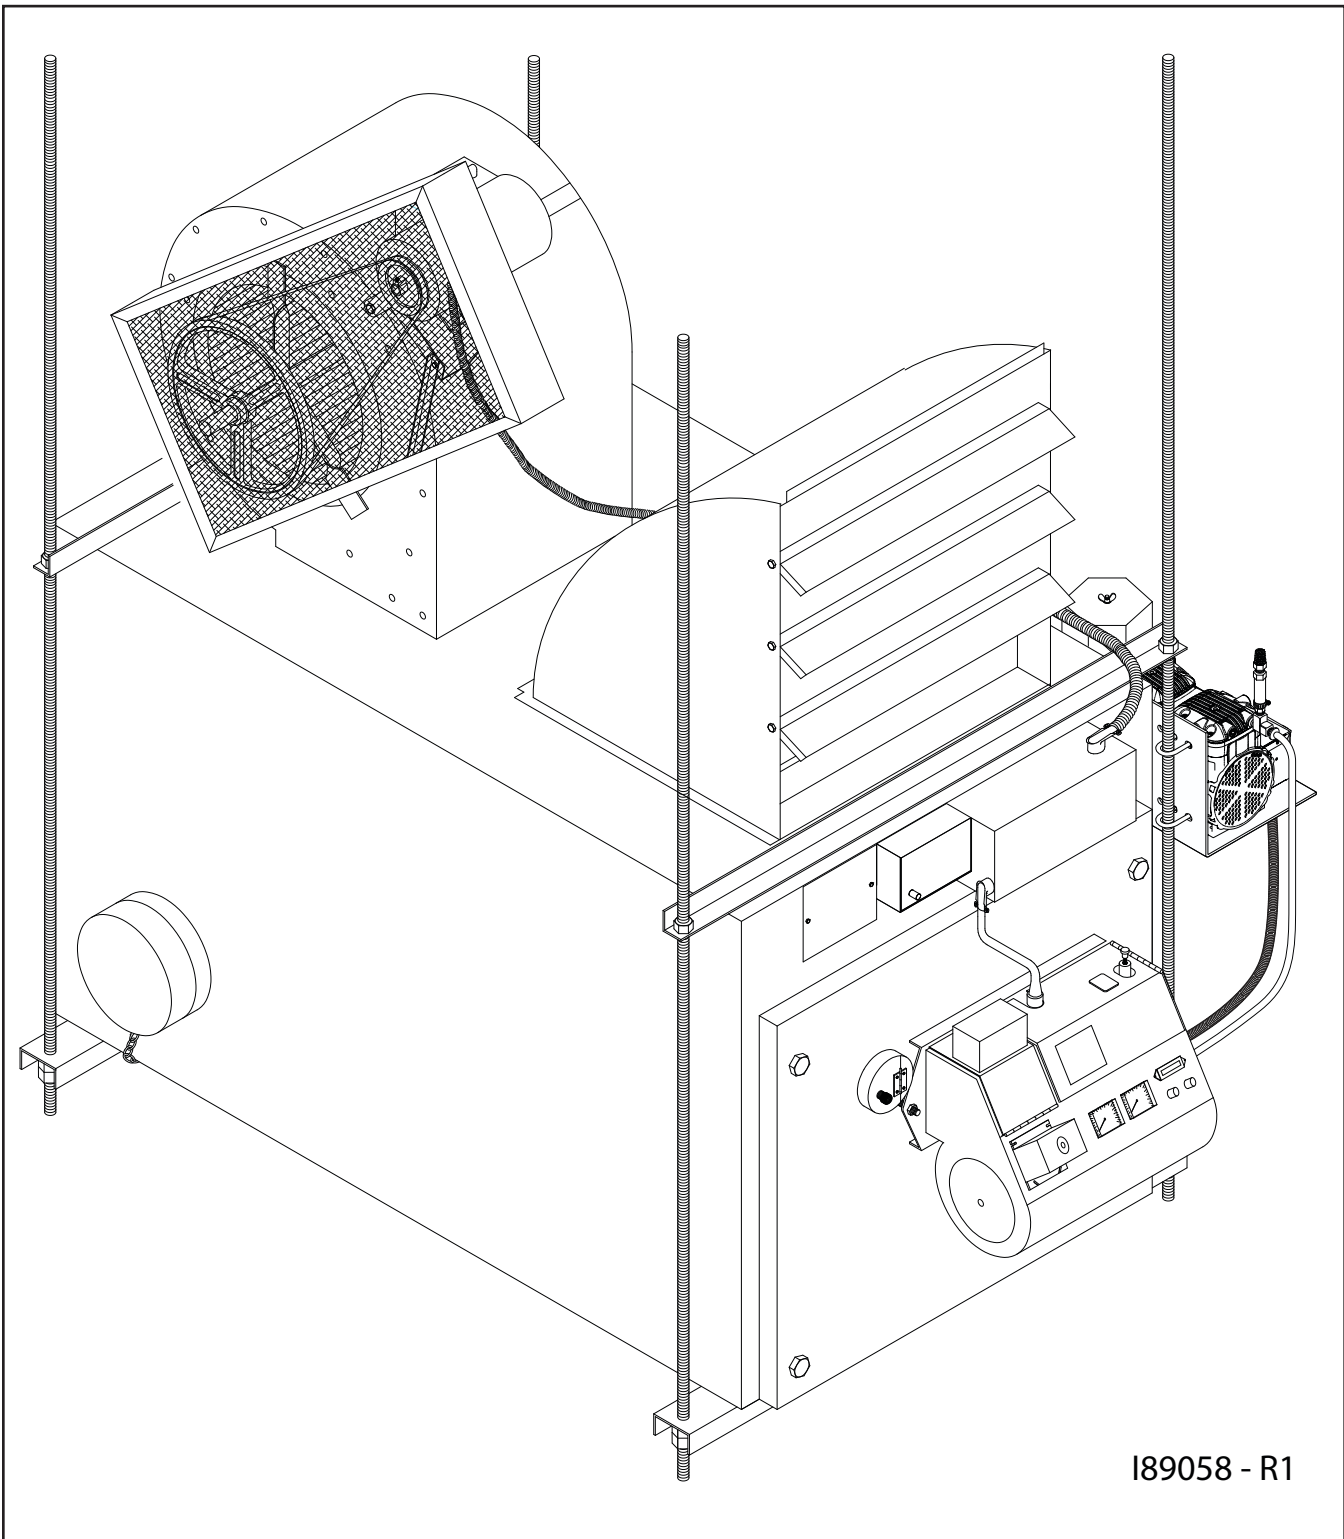

Figure 3D - Air Compressor Installed on the CB-3500 / CB-5000
NOTE: The air compressor will be installed on one of the forward all-thread rods as illustrated in Figure 3D.
2. While facing the burner side of the furnace, install the air compressor on the front right all-thread rod using the two U-bolts and nuts provided. Position the mounting bracket a few inches below the stabilizer bracket as shown in Figure 3D.